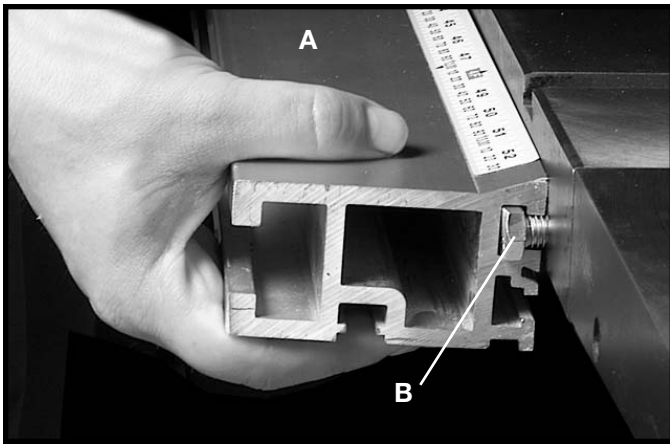
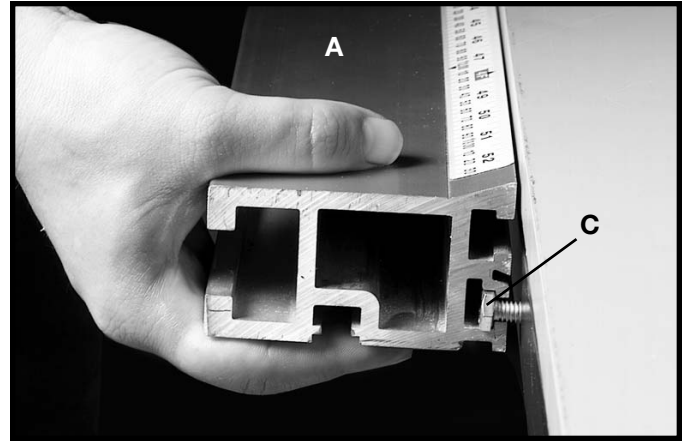

Fig. 75
Fig. 76
5. From either end, slide the T-Slot guide rail (A) Fig. 75, onto the hex head of the bolts partially inserted in step 2 and 3 above. **Note: The bolt heads on the saw table slide into the upper t-slot (B) Fig. 75 and the bolt head on the extension table slide into the lower t-slot (C) Fig. 76.**